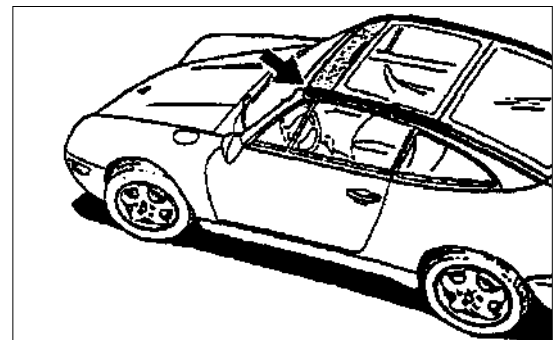

Figure 6
**2.1** With the wind deflector and roof open, pull off the front edge of the side seal and locate the opening at the end of the seal (Figure 6, arrow). Use a suitable wire coated with vaseline to lubricate the inside of the seal along its entire length.